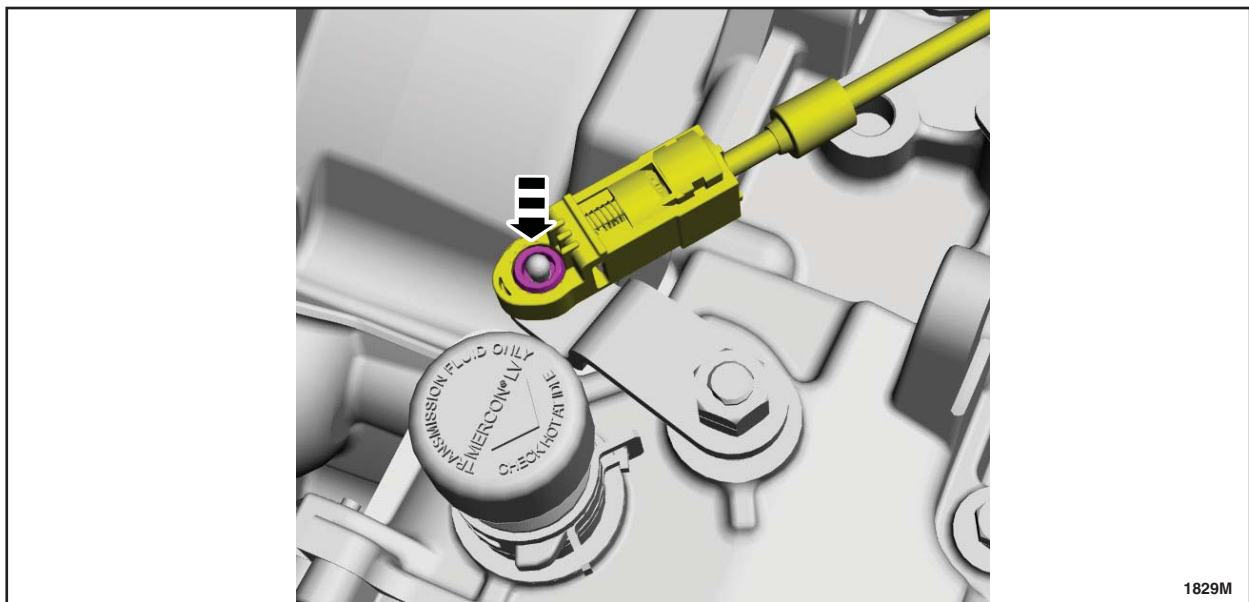

FIGURE 13
14. Connect the selector lever cable to the manual control lever. See Figure 13.